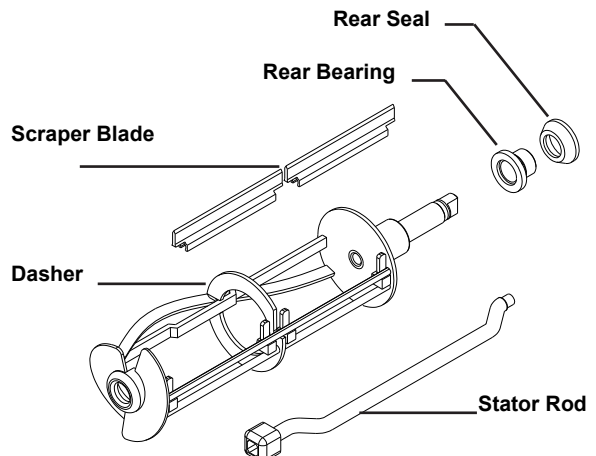

Fig. 10
7. Remove the dasher assembly (Fig. 10) being careful not to damage the scraper blades, then disassemble in the following manner: